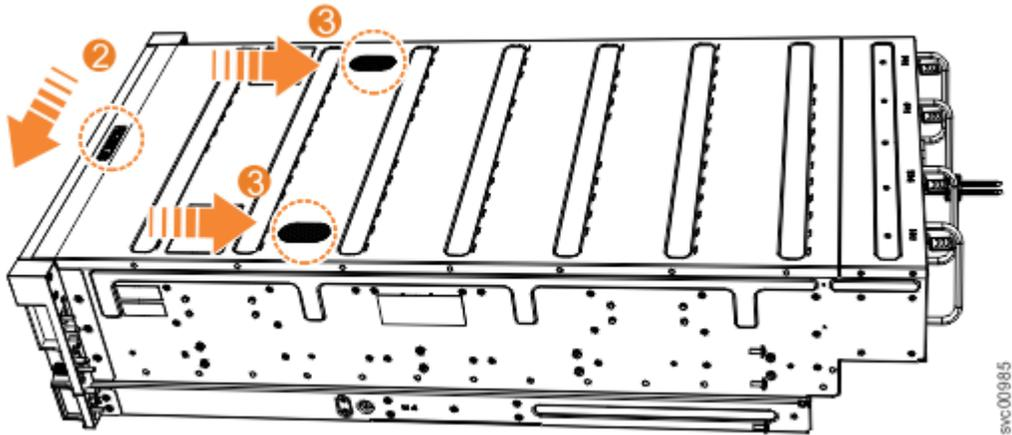

Figure 79. Replacing the 2145-92F top cover
2. Push the cover release lever to the side (2) as shown in Figure 79 on page 73.
- Slide the cover towards the back of the enclosure (3) back until it stops, as shown in Figure 79 on page 73.